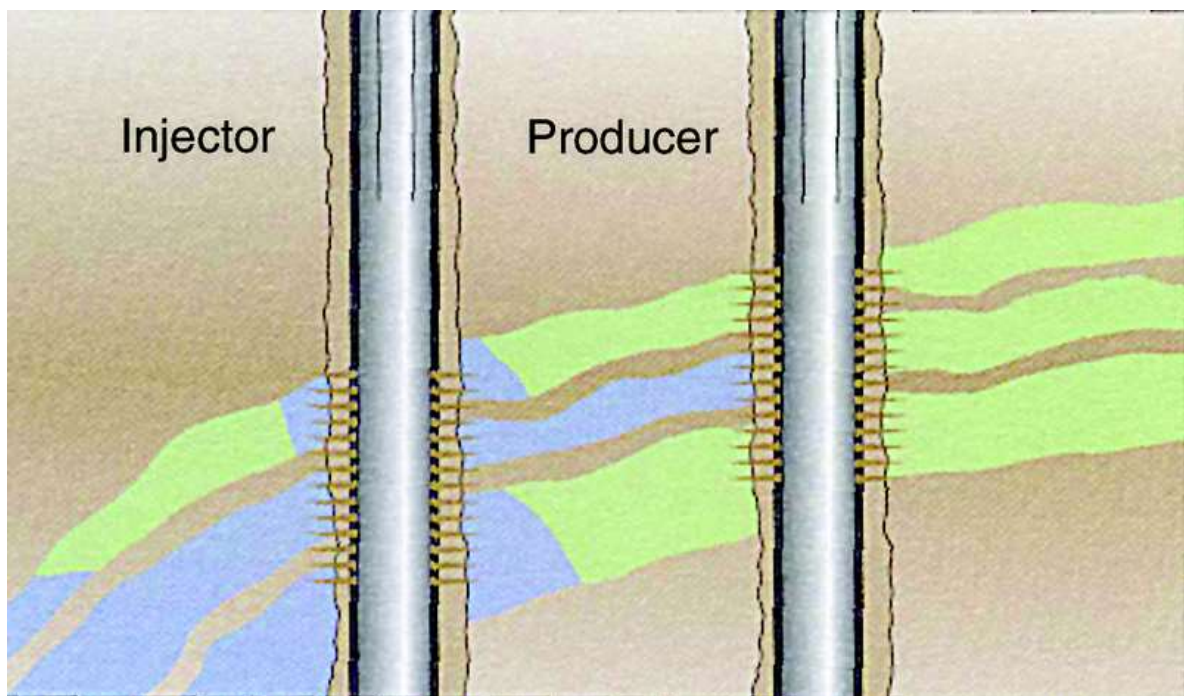

Fig. 1 – Watered-out layer without crossflow
- Watered-out layer without crossflow – this is a common problem with a multilayer production and high-permeability zone isolated with flow barriers (e. g., a shale bed) above and below the zone. It is shown schematically in **fig. 1**.